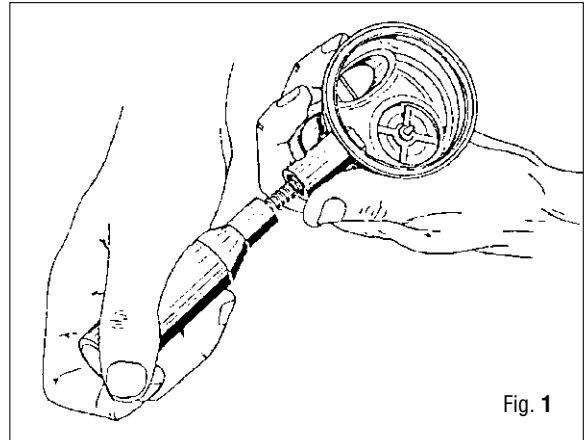

Fig. 1
2. Using cutting nippers (or scissors), cut the end of the exhaust valve (40).
3. Reassemble the rubber seat (47) in the poppet body (30).
4. Position the 2nd stage poppet assembly and its spring (31) on the special tool (B-6).
5. Exerting a light pressure, correctly position the 2nd stage poppet and its spring inside the inlet fitting of the 2nd stage case. (Fig. 1)
IN ORDER TO CORRECTLY POSITION THE 2ND STAGE POPPET, IT IS RECOMMENDED TO ROTATE THE SECOND STAGE CASE TO THE RIGHT AND LEFT (FIG. 1).